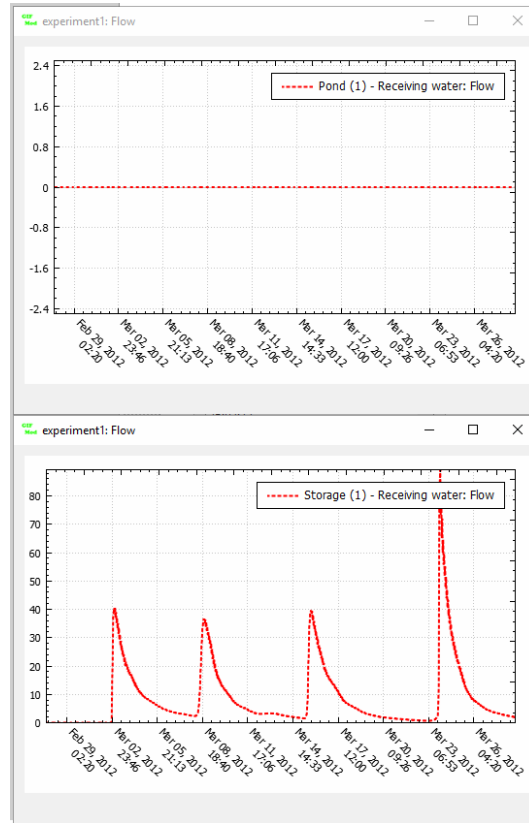

Figure 6.5: Overflow and under-drain flow rates from the rain garden during the course of simulation
13. **Under-drain and overflow flow rates:** Right-click on the pipes connecting *Pond (1)* and *Storage (1)* to the *Receiving Water* and click on flow rate. This should show the overflow and under-drain flow rate leaving the rain garden during the course of simulation (Figure 6.5).